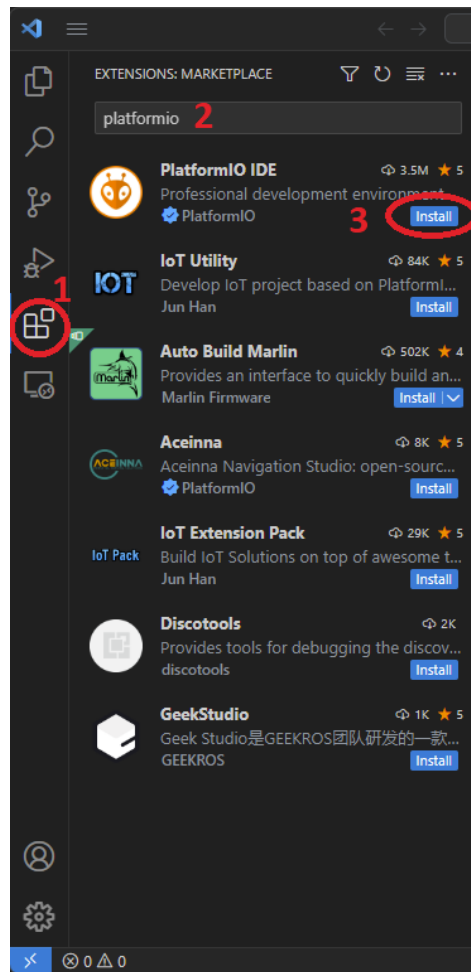
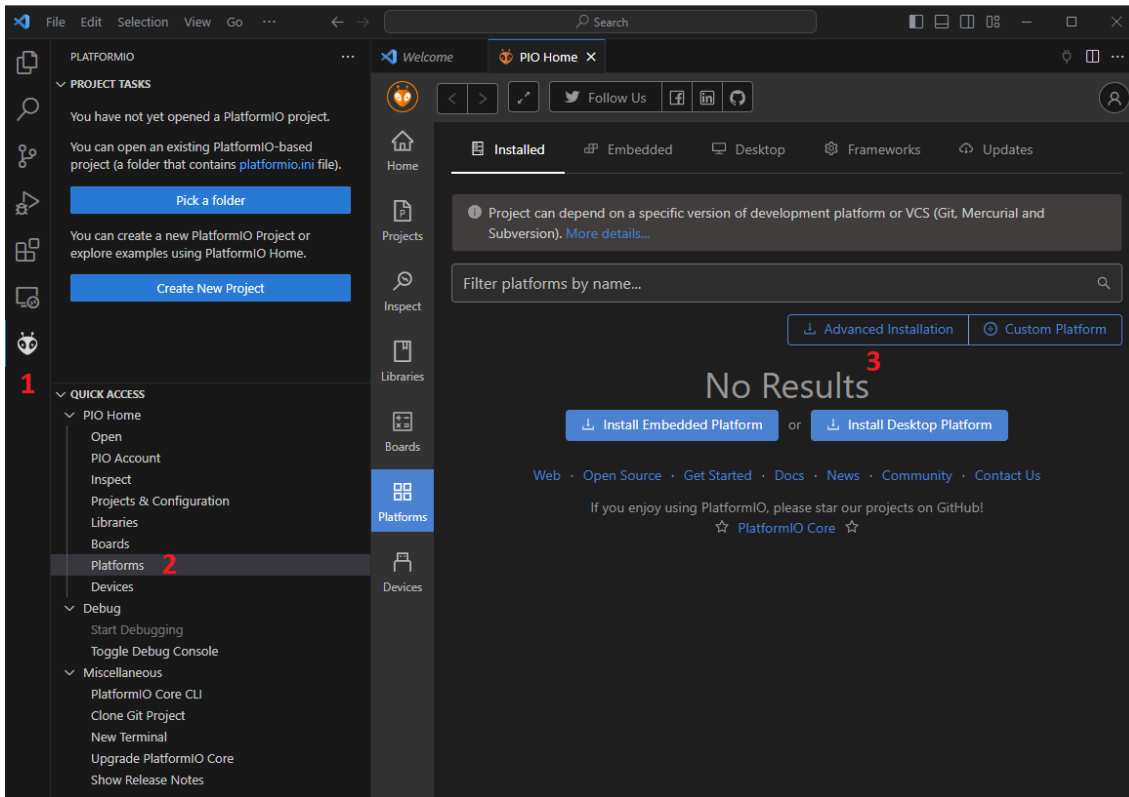

Figure 3. Installing the PlatformIO extension in VS Code
Figure 4. Installation of external platform - navigation
After installing VS Code, and launching it, follow the following steps to install the PlatformIO IDE extension (see Figure 3 below)
1. Click the PlatformIO icon from the Visual Studio Code activity bar on the left, and wait until you can see a quick access menu (see Figure 4 above). If the installation has not yet completed you may see "Initializing PlatformIO Core..." in the section where Quick Access is seen in Figure 3.